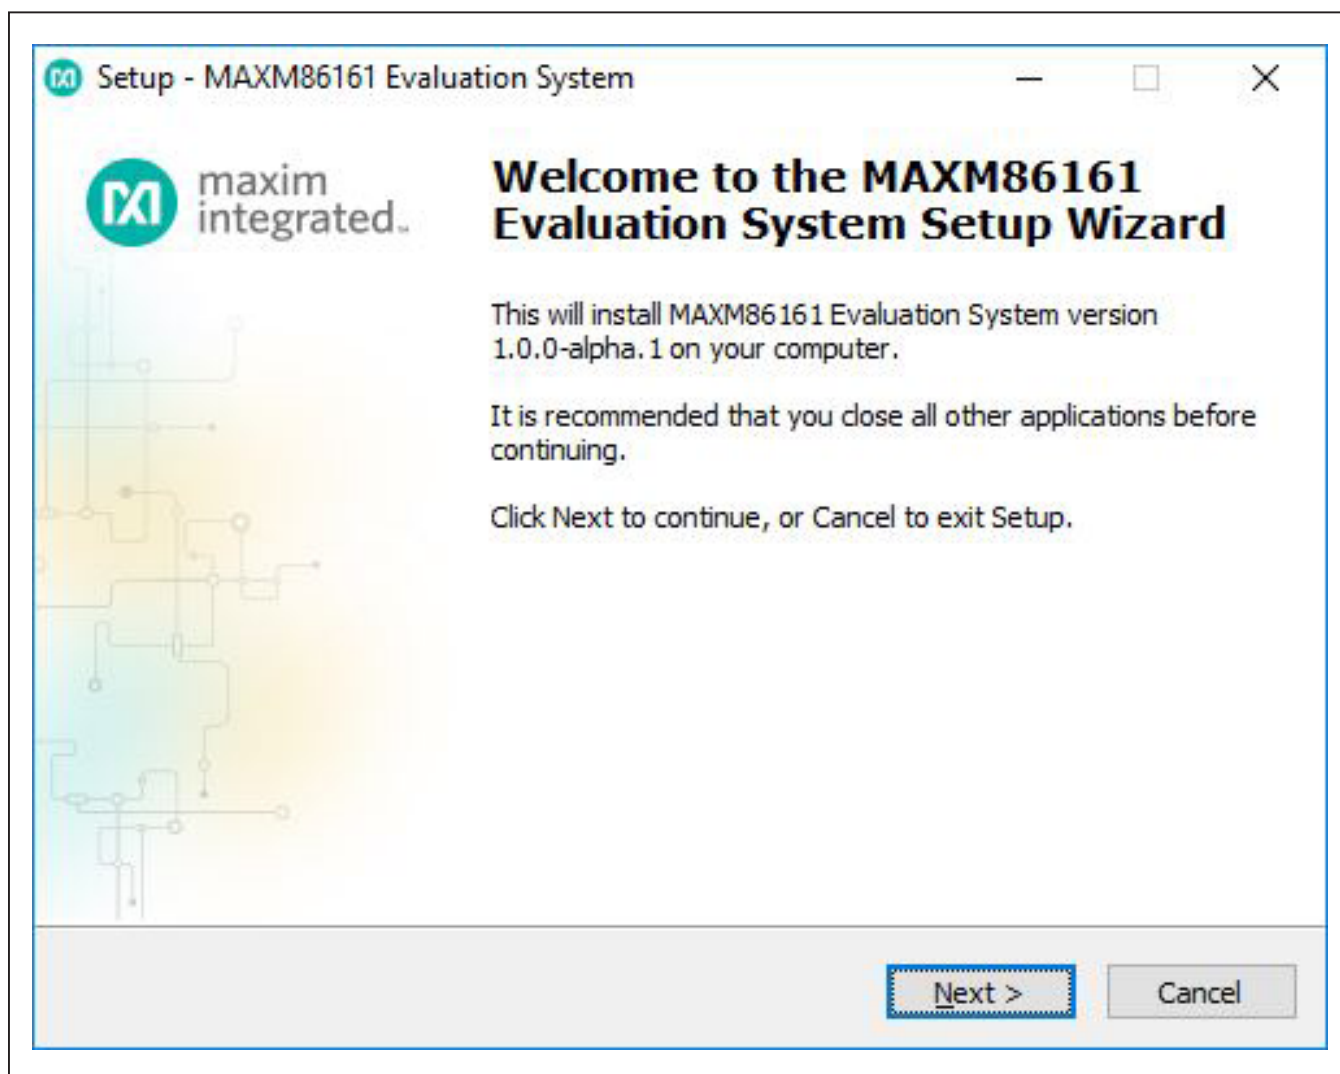
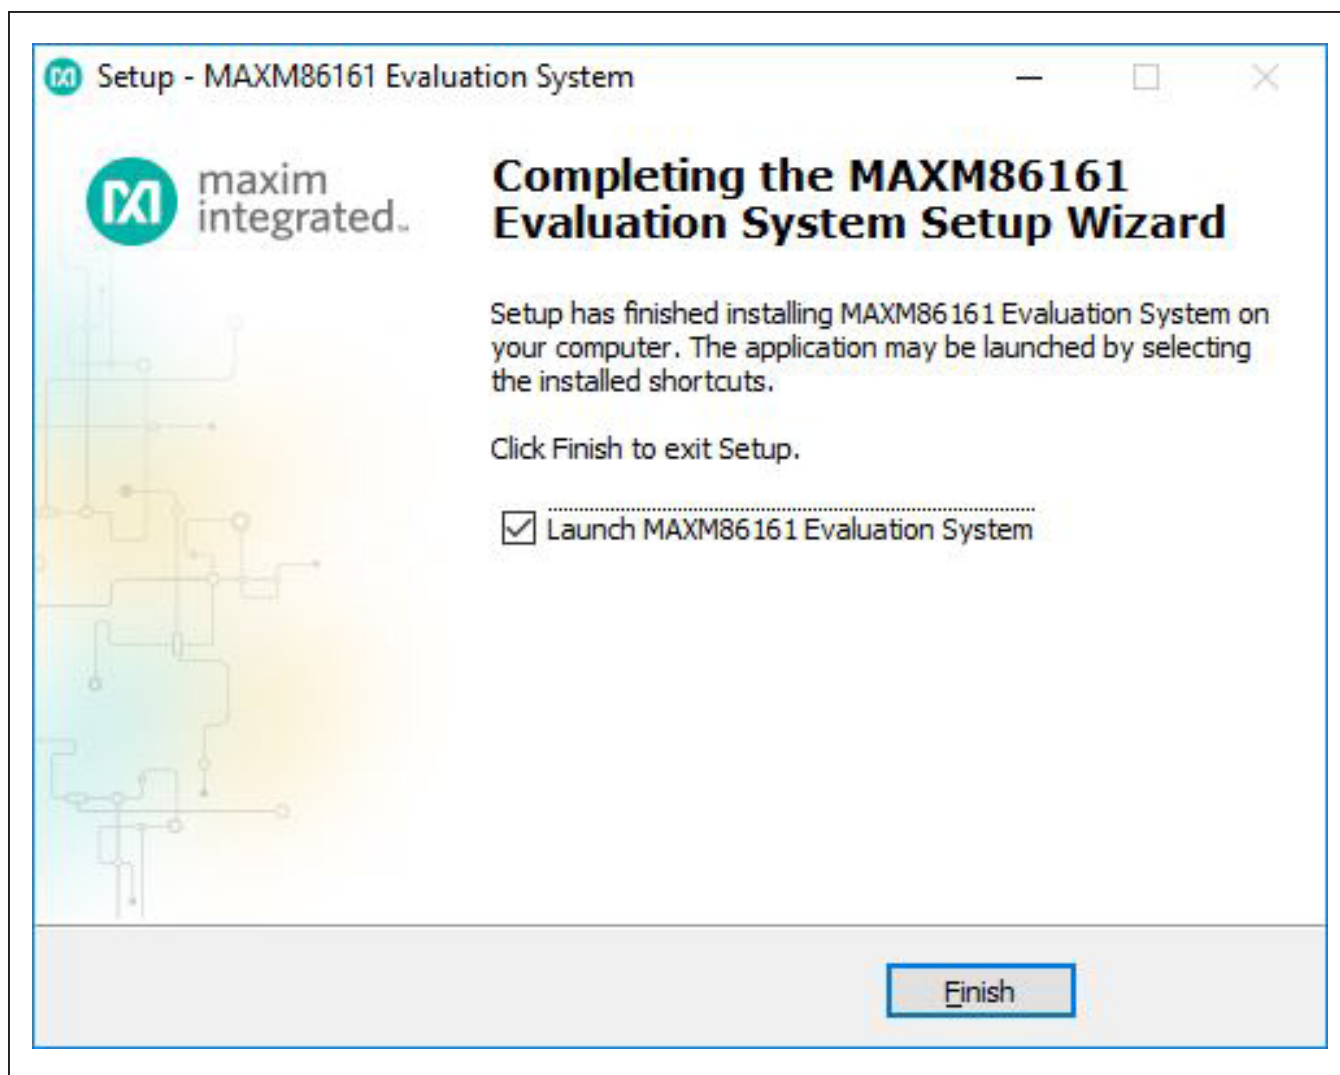

Figure 4. Setup MAXM86161 EV System GUI Software Step 1
Figure 10. Setup MAXM86161 EV System GUI Software Step 7
- 5) Open up MAXM86161GUISetupVxxx.exe and follow the instructions from the pop-up windows as shown in Figure 4 to Figure 10.